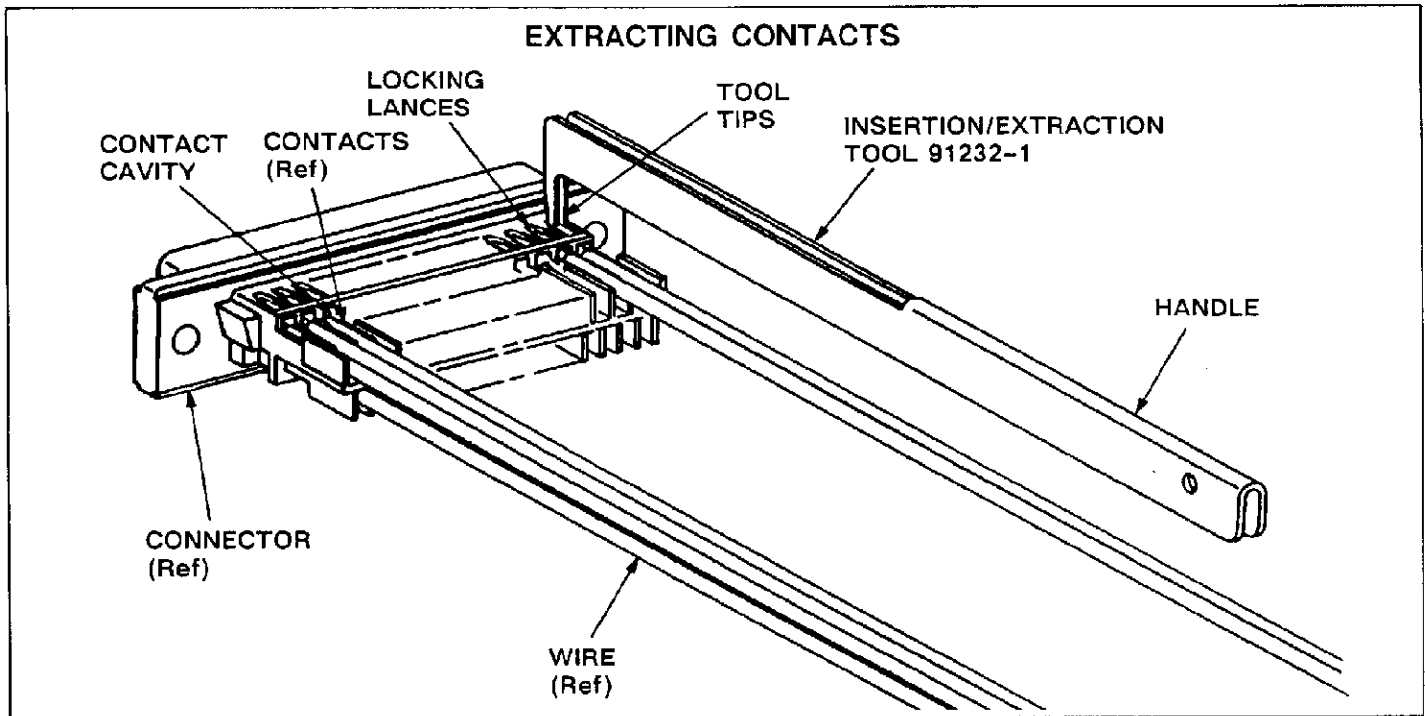

Fig. 2
3. EXTRACTION PROCEDURE (Figure 2)